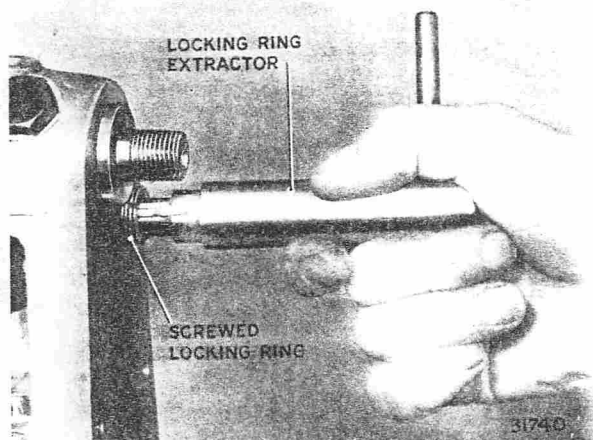

FIG. 35. REMOVING LOCKING RING
2. To remove the locking ring holding the rear control rod bush in position in the pump housing, use C.A.V. Tool No. ET.031 (Fig. 35).